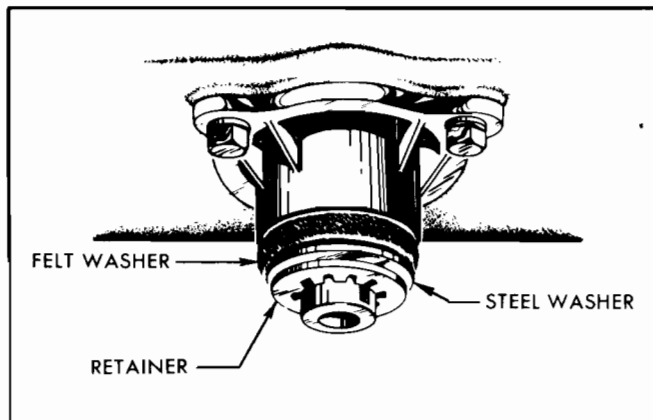

Figure No. 58—Dirt Excluder Assembly
3. Drive the oil seal into the housing with TL-908, Oil Seal Driver, until it is recessed about 3/32 or until it bottoms in the housing. (See Figure No. 58.) The seal should be recessed in order to properly shield the felt washer after assembly.